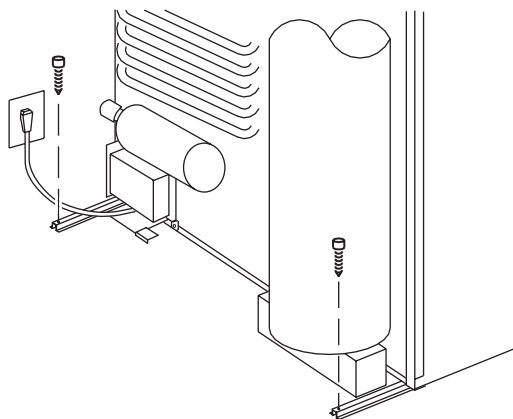

Fig. 15
3. Two screws installed in the rear base, see Fig. 15.